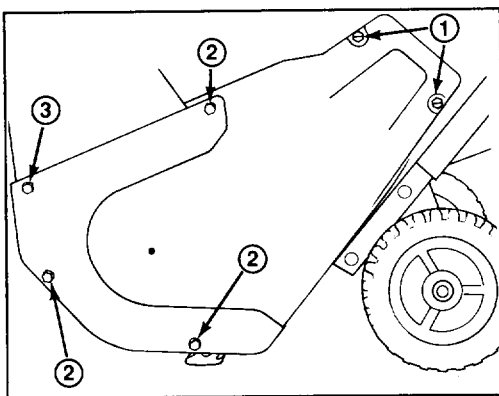

Figure 13
(Figs. 13 & 14)
4. Remove (3) self tapping screws, (3) capscrews, (1) washer, and (3) nuts securing left side cover to snowthrower frame (Fig. 13). Lift off left side cover and allow it to hang from the cable.